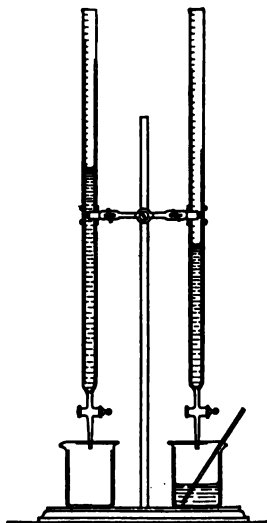

FIG. 35
**71. Ratio of acid to base in neutralization.** Prepare a dilute solution of sodium hydroxide by diluting 20 cc. of the laboratory reagent to 100 cc.; also a dilute solution of sulfuric acid by adding 1 cc. of the concentrated acid to 100 cc. of water. Rinse out a burette (storeroom), first with distilled water, then with a little of the alkaline solution. Support the burette (Fig. 35) and pour the alkaline solution into it until the level of the liquid is 2 or 3 cm. above the zero mark. Turn the stopcock and let the solution flow out until the bottom of the curved surface (meniscus) is on a level with the zero mark. In a similar way fill a second burette with the acid solution. Now let exactly 15 cc. of the acid solution flow into a small beaker, add 2 drops of a solution of phenolphthalein and run in 2 or 3 cc. of the alkaline solution. Notice that where the liquids come in contact, a reddish color is produced, which disappears quickly on stirring. Run in more of the solution, a little at a time, until the color fades slowly, then a drop at a time until the entire liquid, on stirring, remains colored *faintly* red. This marks approximately the point of neutralization. Note the number of cubic centimeters of the alkaline solution used. Repeat the experiment, using different volumes of acid, say 10 cc. and 20 cc. Calculate in each case the number of cc. of the alkaline solution required to neutralize 1 cc. of the acid solution. What do the results prove?